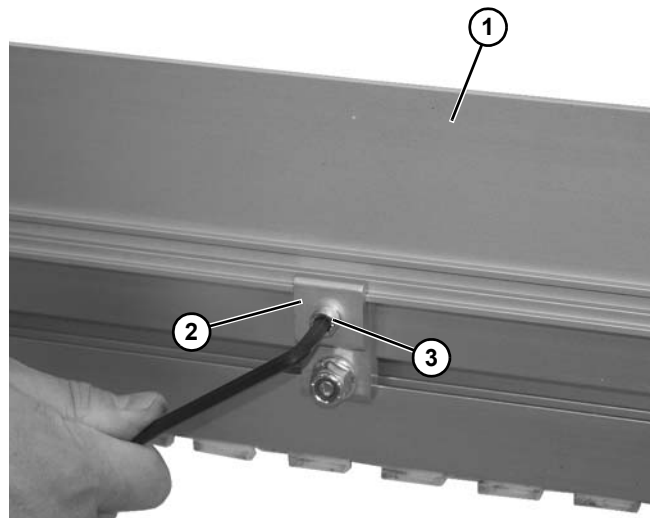

Figure 75
5. Install guide (Figure 75, item 1) and retaining clip (Figure 75, item 2) to conveyor side rail with socket head screw (Figure 75, item 3).